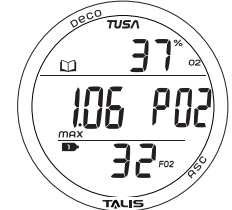

Fig. 51 - LOG DATA 2
**Log Data 2** (only if NORM Nitrox), information includes (Fig. 51):